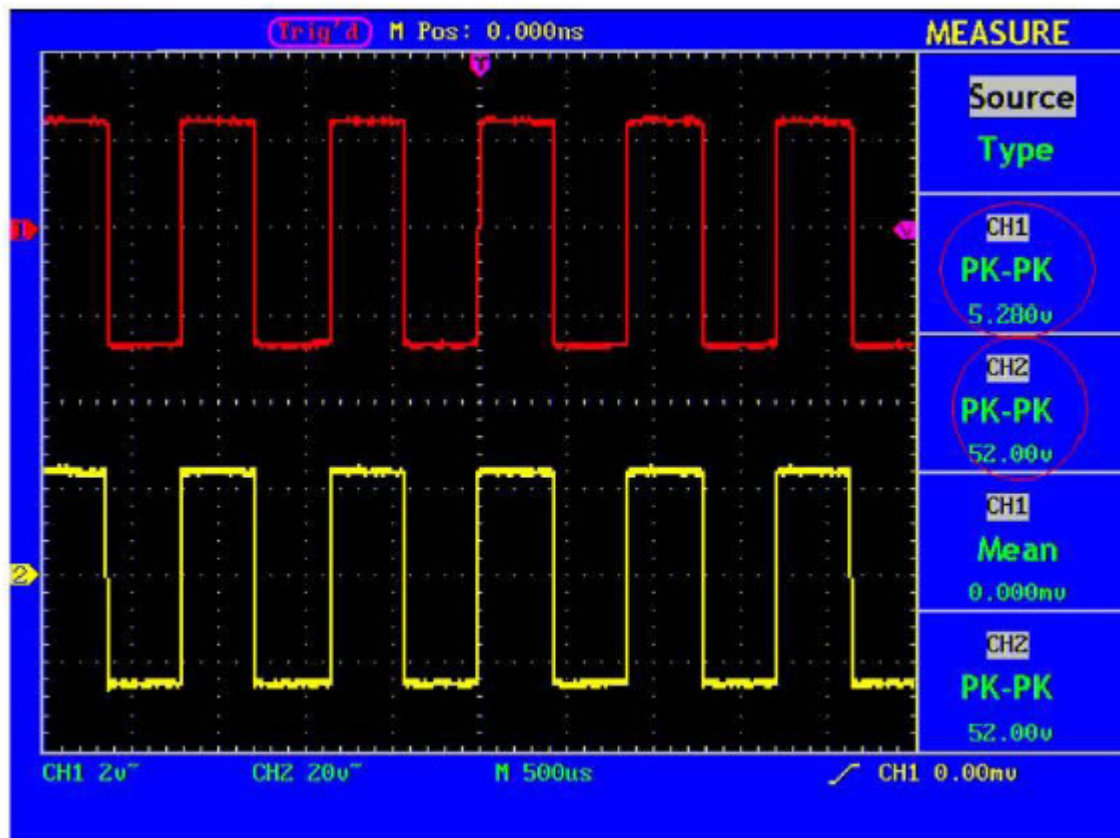

Fig. 59 Wave Form of Gain Measurement
9. Read the peak-to-peak values of Channel 1 and Channel 2 from the displayed menu (see Fig. 59.)